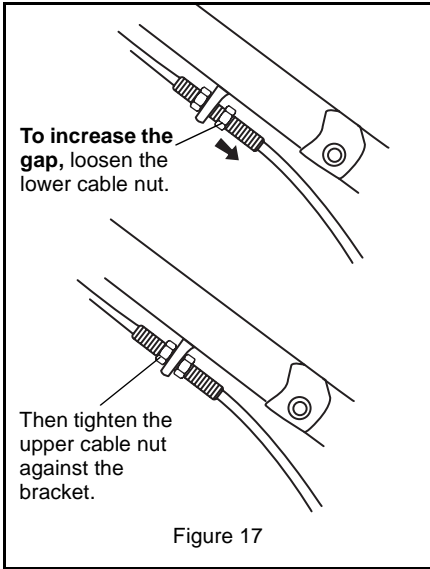

Figure 17
- Loosen the lower cable nut on the wheel drive control cable, and then tighten the upper cable nut against the adjuster bracket. See Figure 17.